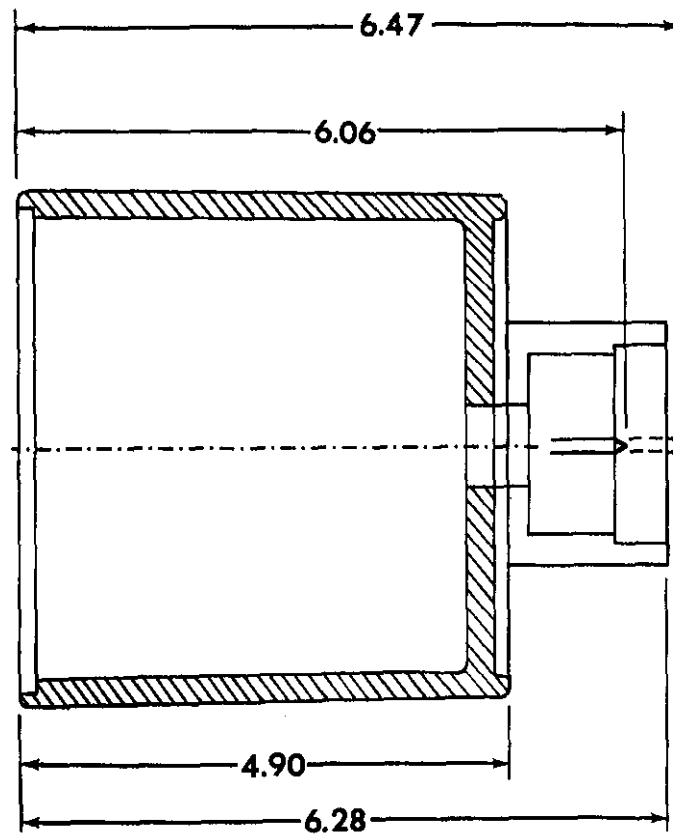

FIGURE 12. Input Head Casting.
a. Casting Dimensions. The overall dimensions of the Input Head Casting are shown in Figures 12 and 13.
b. Input Contact. The input contact is spring loaded with the dimensions from the base as shown in Figure 12.